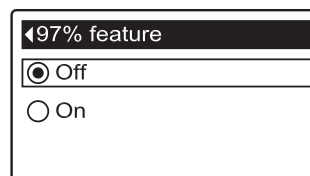

FIG. 72
8c. 97% feature: If the desired option already has a black dot next to it (See Figure 72), go to Step 9. Otherwise, press the DOWN (▼) or UP (▲) buttons to scroll to the other option, then press SELECT (O) to choose it. If this feature is On, the softener will automatically recharge when 97% of capacity is used, at any time of day. Default is Off.